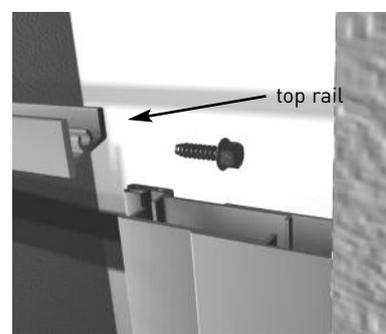

Figure a12
12. When the Hinged Door (B) is being installed into a three wall alcove, the top rail can be removed to allow unrestricted height access. To achieve this, unloosen both Hex Head Screws on both sides of the top rail (**Figure a12**) with an 8mm spanner (not supplied). Both Hex Head Screws only need to be turned two to three times to enable you to lift out the top rail. Once the top rail has been removed fit the Infill Plugs (L) into the exposed slots (**Figure 12i**). **Note:** At no stage should you remove this top rail if the Hinged Door is being used in conjunction with Side, In-line or Neo-Angle Panel(s).